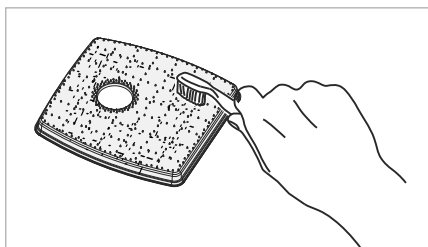

Fig. 13
- 6) Lightly knock out the EPA filter ⑨ in a waste container and brush it off carefully with a soft brush (see Fig. 13).